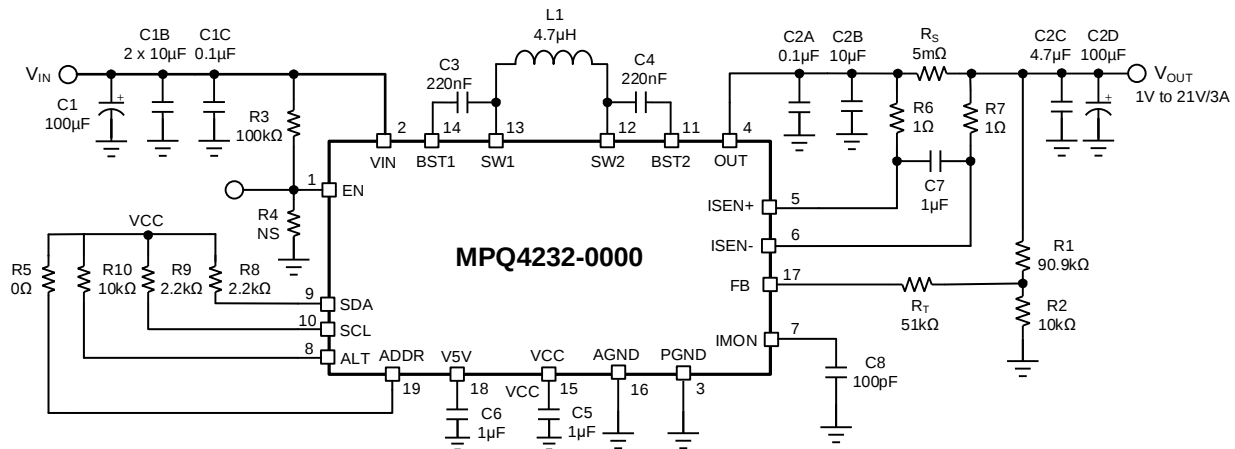

Figure 14: Typical Application Circuit ($V_{IN} = 9V$ to $16V$, $V_{OUT} = 5V$, 1V to 21V adjustable via the I²C, I2C_EN on by default)
12) The recommended layout is based on Figure 14 on page 38.